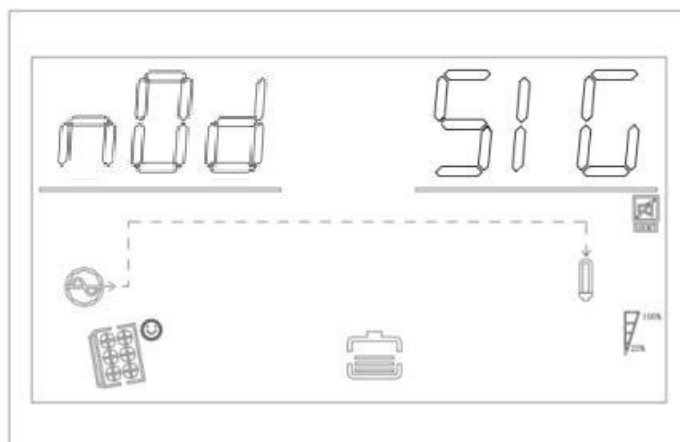

Figure 1-14: Display Page 11 (Parallel Status)
- 5KVMH: Displays photovoltaic power generation data (see Figure 1-14).